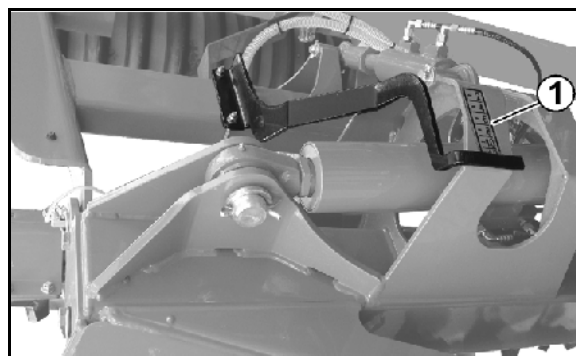

Fig. 37
- The working depth is set hydraulically using the scale (Fig. 37/1).